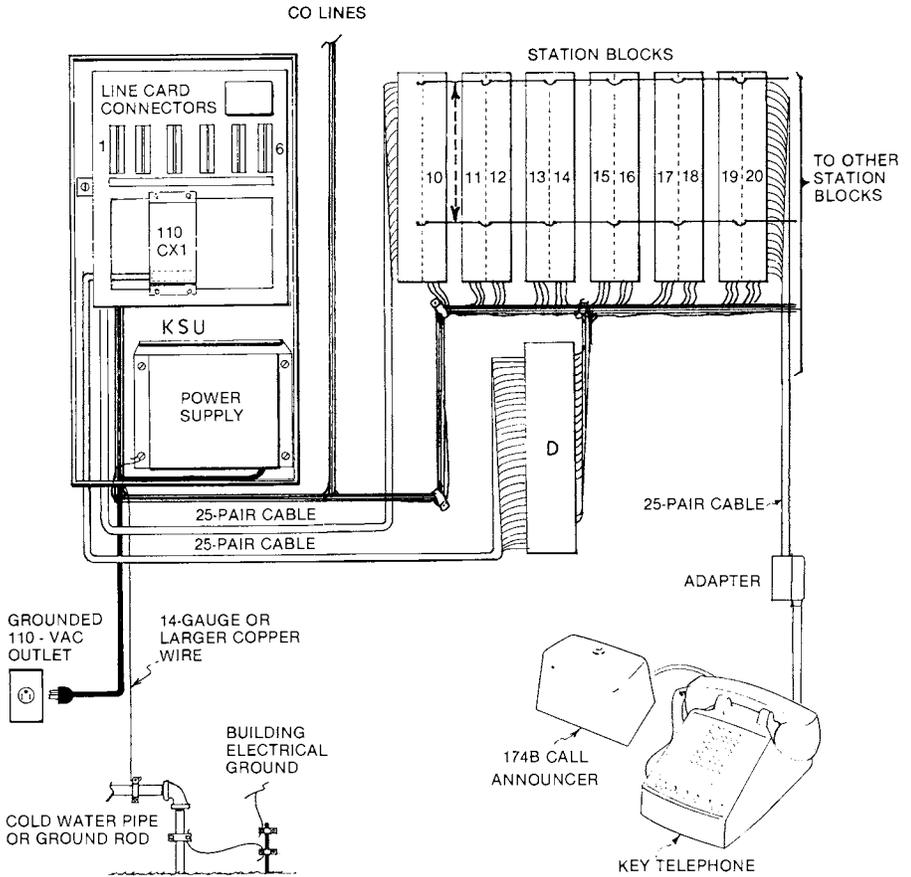

Fig. 1 — Typical Installation
3.07 Figure 1 illustrates a typical installation using external split blocks for station connections. The first side of the first station block is used for terminating a cable from Block A of the Key Service Unit (KSU).